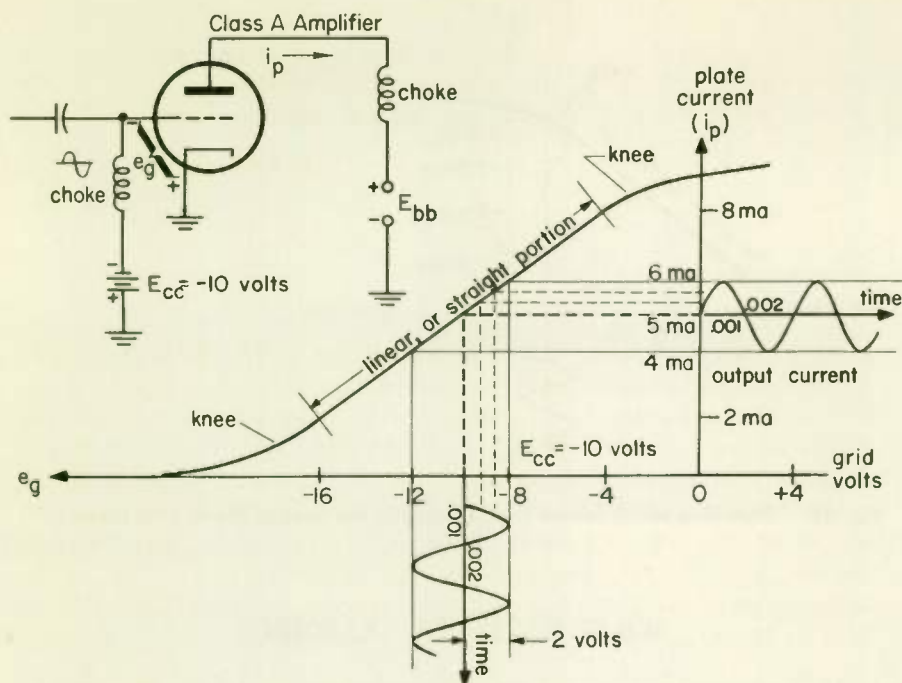
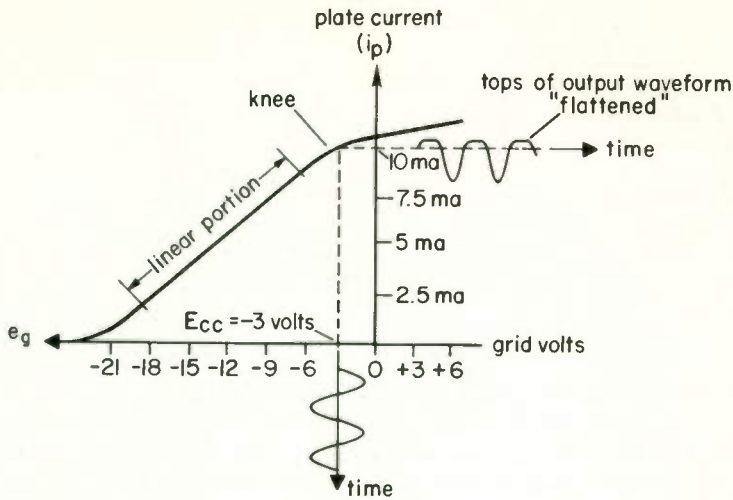

Fig. 27 A 2-volt a-c input signal produces a fluctuation about $E_{cc} = -10$ volts which produces a fluctuation in i_p .
Fig. 28 Distortion which results from biasing in the knee of the $e_g - i_p$ curve.
THE CLASS A AMPLIFIER . . . Figure 27 shows the operation of an amplifier. The total voltage from grid to cathode is the a-c input signal voltage plus the d-c negative grid bias voltage E_{cc} . The *class of operation* of an amplifier depends on what value is chosen for E_{cc} . In *class A* operation E_{cc} is chosen as indicated on the curve, directly under the center of the linear, or straight, portion of the curve.
With no input signal the plate draws a constant d-c plate current. In Fig. 27 E_{cc} is -10 volts, so that the no signal d-c plate current is 5 ma. When the signal is applied to the input terminals, the signal adds to the bias voltage, and the voltage from grid to cathode varies as shown on the curve of Fig. 27. On this diagram an input voltage of value 2 volts peak is shown producing a fluctuation about the bias voltage E_{cc} . for example, 0.001 sec after the input is applied, the input voltage has risen to its maximum value of 2 volts. The total voltage on the grid is now 2 volts -10 volts = -8 volts bias. On the curve you see the plate current then rises to 6 ma. Because the curve is very
In this kind of diagram you can think of the input voltage as being reflected up off the curve, producing the plate current as shown in Fig. 27. Note that if the plate-current grid-voltage curve were not a straight line near E_{cc} , the output current would not resemble the input voltage so closely and serious distortion would occur. Such a case is shown in Fig. 28, where E_{cc} is chosen as -3 volts in the knee or curved portion of the curve.
3. Referring to Fig. 27, the maximum peak input voltage which you can apply to the input of the amplifier without forcing the grid-cathode voltage into the lower knee of the curve is (a) _____ volts. Applying a voltage greater than this value will result in a (b) *(distorted)* *(undistorted)* output.
4. In Fig. 27 the a-c output current fluctuates about the d-c level of (a) _____ milliamperes. It rises to a value of (b) _____ milliamperes on positive peaks and falls to a value of (c) _____ milliamperes. On the average, what would you say the plate current of the tube is? (d) _____ milliamperes.
When no signal is applied to such an amplifier, a fairly large d-c plate current flows through the tube. The product of this current and the voltage across the tube gives the amount of power which E_{bb} is supplying to the tube in the form of heat. When a signal is applied to the input, the plate current rises and falls about this d-c level. Although the plate current is rising and falling, on the average, it is constant at this d-c value. For example, the plate current in Fig. 27 rises to 6 ma and falls to 4 ma, but on the average it has a value of 5 ma, which is just the no-signal d-c plate current.